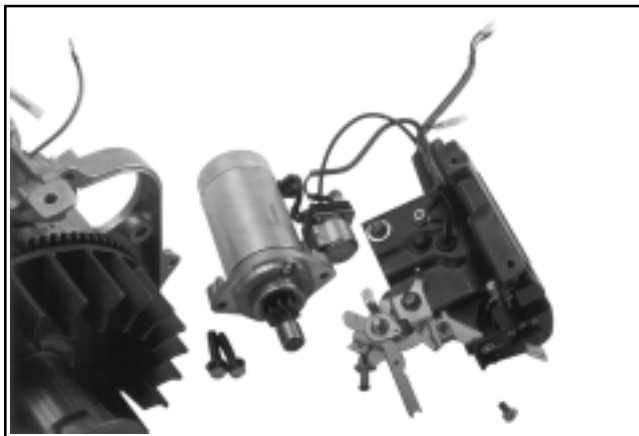

**Figure 9-29. Removing Starter Mounting Bolts on CS8.5 (spec. 92xxxx), CS10, and CS12.**
4. Remove the two electric starter mounting bolts. See Figures 9-29 and 9-30.